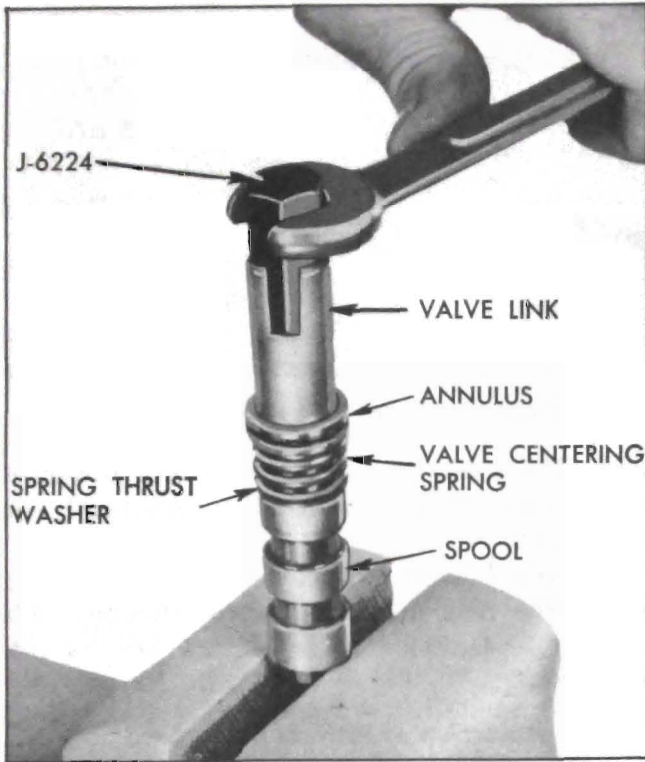

Figure 8-19—Removing Valve Link
2. Clamp the spool assembly in a vise on the small end. DO NOT CLAMP THE SPOOL ON THE LARGE FINISHED DIAMETER. Remove the valve link using Remover and Replacer J 6224, annulus, valve centering spring, and spring thrust washer. Then turn spool over to remove the reaction control spool and spring. See Figure 8-19.